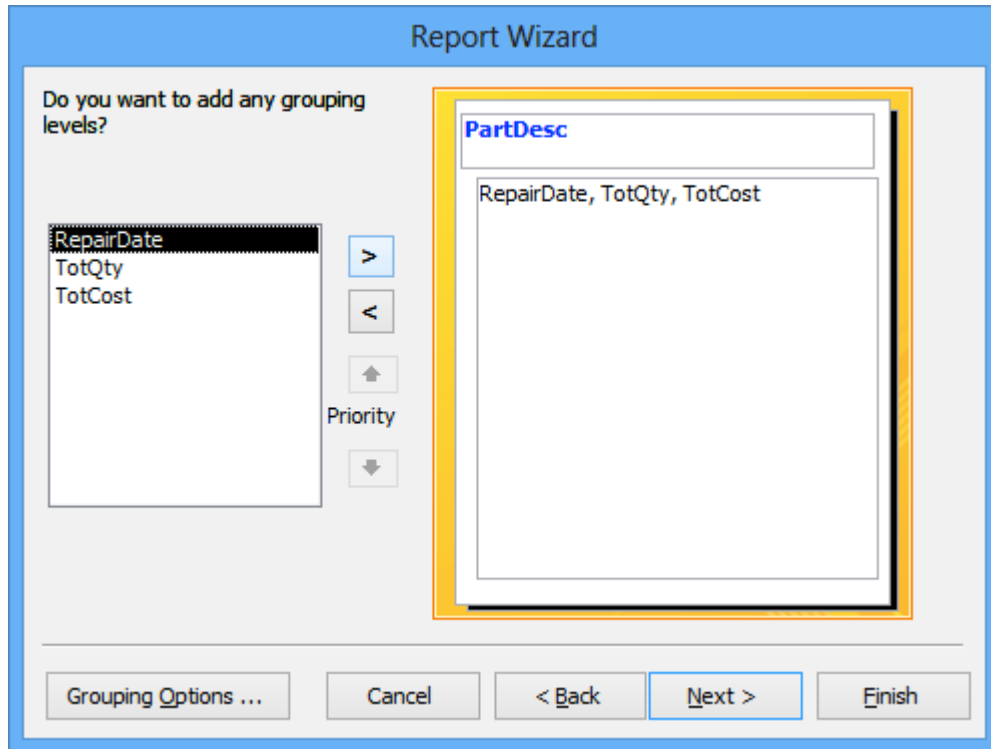

Figure 7: Report Wizard Grouping Window
3. Add Grouping Levels: Select and add *PartDesc* using the > button. Your Report Wizard window should appear as in Figure 7. Click the **Next >** button to continue.